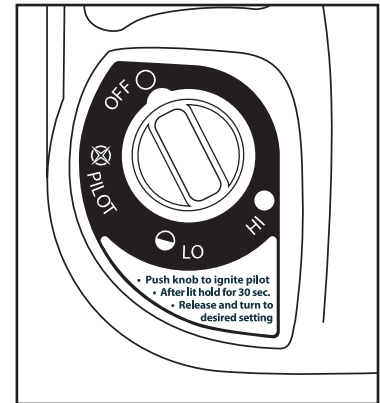

Figure 1: "Off" position.
- Make sure four-position Control Knob is in "OFF" position; see Figure 1.
- Make sure four-position Control Knob is in "OFF" position; see Figure 1, at left.